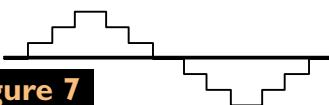

Figure 7
A. I'm no expert, but I can tell you the reason for the different current profiles between the two waveforms. Off-line switching power supplies have a capacitor input (see "Power Supply Design 101" above). Capacitors charge exponentially, with a heavy beginning current that tapers off as time increases. If the applied voltage is gradually applied, as is the case of a sine wave, the inrush current is tempered. The modified sine wave (Figure 7), on the other hand, causes sudden current surges with each step.